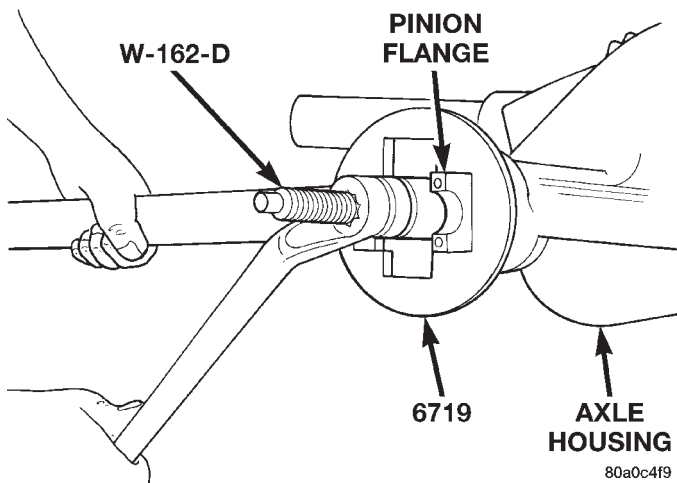

Fig. 35 Pinion Yoke Installation—Typical
(7) Install yoke with Installer W-162D and Wrench 6719 (Fig. 35).